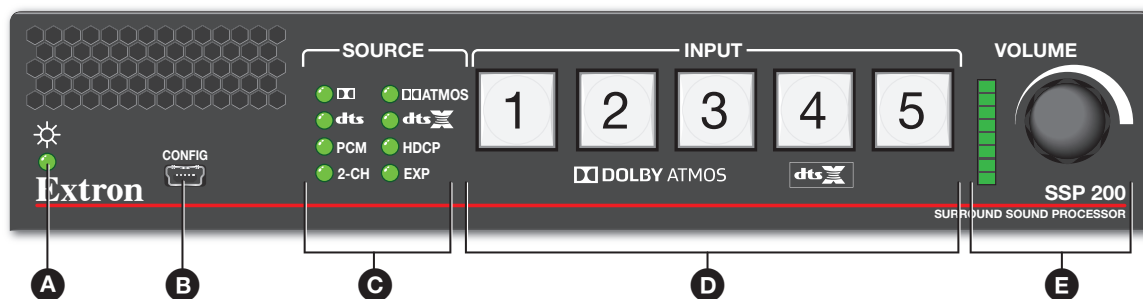

Figure 3. Front Panel Features
- For control through USB, connect a host device to the front panel USB mini-B port (see figure 3, B, on the next page).